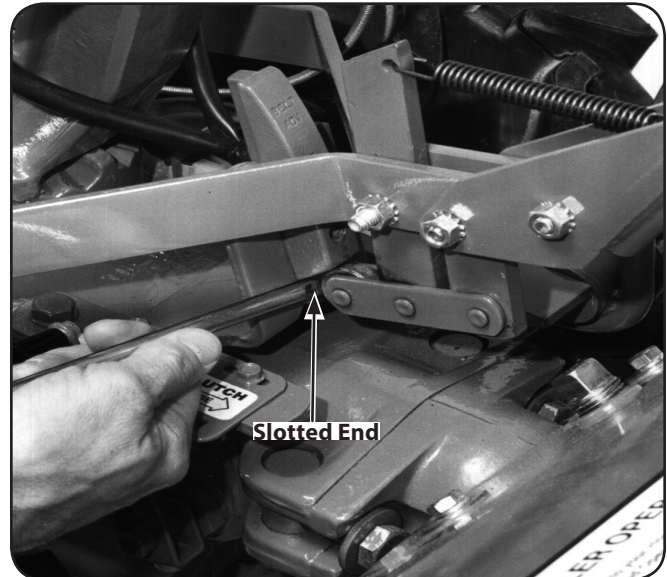

Figure 6-14
- a. Without moving the clutch roller, try inserting the $\frac{1}{4}$ "-thick, slotted end of the belt adjustment tool in between the roller and the upright bracket. The flat edge of the tool must be facing the roller. See Figure 6-14.